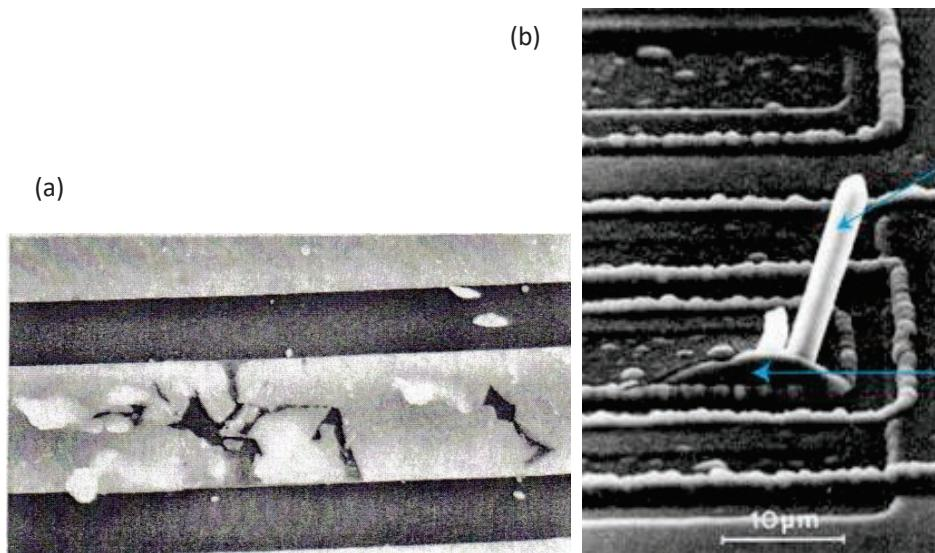

Figure 1: (a) Voids, and (b) whiskers.
- (b). Formation of voids and whiskers are commonly seen on metal thin films that deposited on the wafer surface as shown in Figure 1.